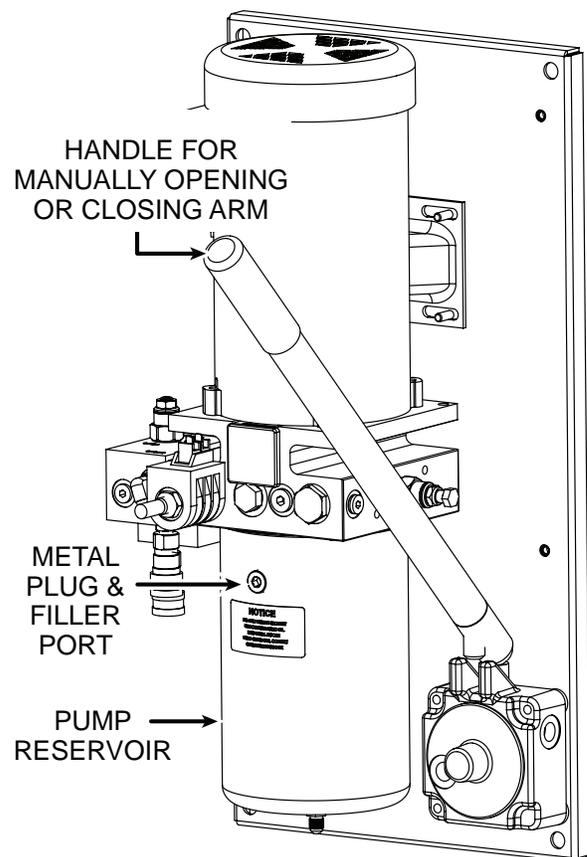

Figure 38. Hydraulic Pump
**Fluid Level:** Check fluid level with arm in down/closed position. Under normal conditions, hydraulic systems do not consume fluid. Check the system thoroughly for leaks, before adding any fluid. See Figure 38. If fluid needs to be added: